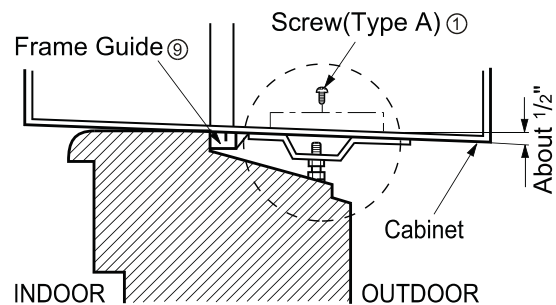

Fig. 4
4. Cut the window sash seal to the proper length. Peel off the backing and attach the Foam-PE to the underside of the window sash. (Fig.4)
4. Select the position that will place the Sill Support ⑥ near the outer most point on sill. (Fig. 4)
5. Attach the Sill Support ⑥ to the cabinet track hole in relation to the selected position using 2 -type A screws in each support. (Fig. 4).